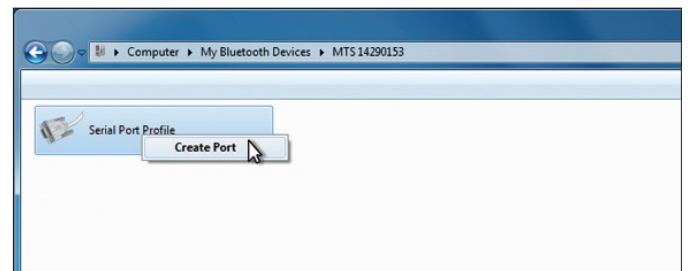

Fig. 6: Create COM Port
3. Right-click “Serial Port Profile” and select “Create Port”. Alternatively you can double-click “Serial Port Profile” to create a virtual COM (fig. 6).